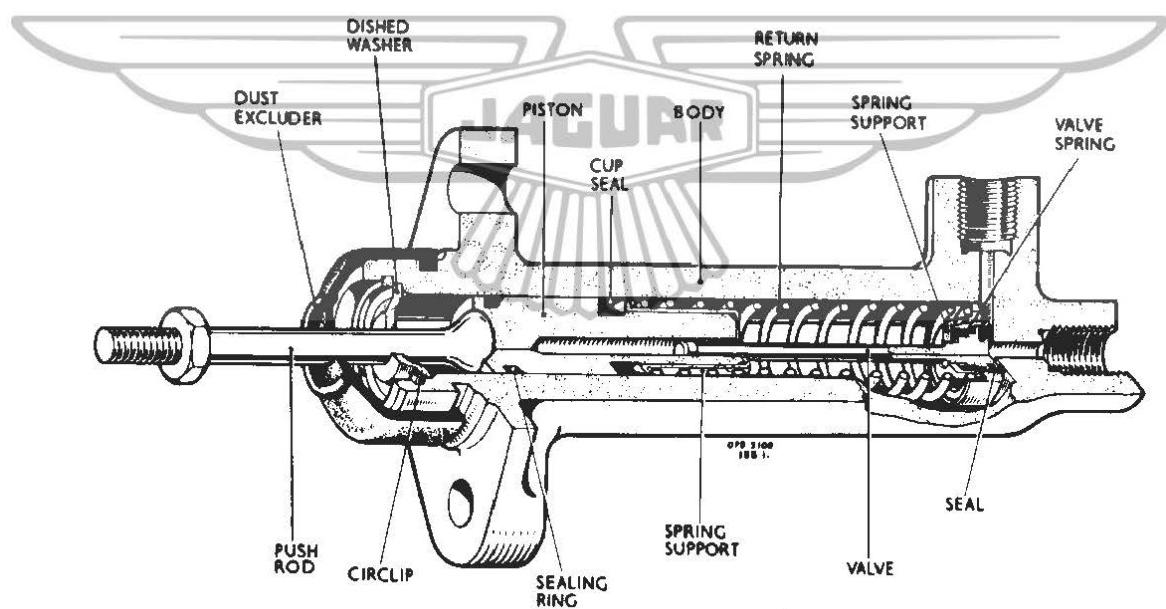

FIG 2.
- (5) Wash cylinder, push rod, rubber dust excluder in methylated spirit or clean brake fluid. Check that cylinder bore is in good condition and that dust excluder and dished washer are undamaged.
- (6) As the piston and valve assembly are not anchored together, ensure during fitting that the piston end of the valve stem locates in the piston bore. (See Fig.2.)
- (7) Lubricate the cylinder bore with brake fluid; insert the piston and valve assembly until the piston fitting sleeve engages in the mouth of the cylinder. Push the piston firmly through the fitting sleeve and remove the sleeve when the piston assembly is fully home in the cylinder bore.
With this change the self adjustment arrangement is modified. The spring washer, shown in Fig.2, Section L of the Mark 2 Service Manual is no longer used, the retraction being by a coil spring located in the piston.